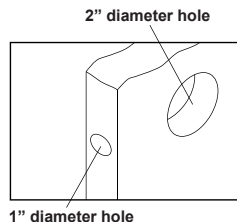

Fig. 13
**Step 2.** Bore a 54mm (about 2" or 2 1/8") hole on door face, then drill a 25mm (about 1") hole into the edge of the door so that it intersects with the larger hole (Fig. 13).
- (N)** • When drilling the 54mm (about 2" or 2 1/8") hole, it's recommended to drill from both sides of door to stop the wood from splintering.